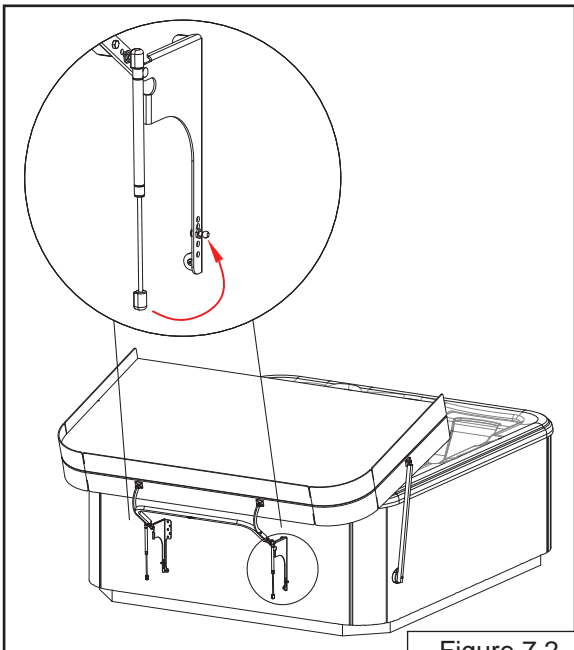

Figure 7.2
2. Fold Cover in half and pull to position shown (Figure 7.2). Snap the lower joint of the Gas Springs onto the lower ball stud (Figure 7.2).